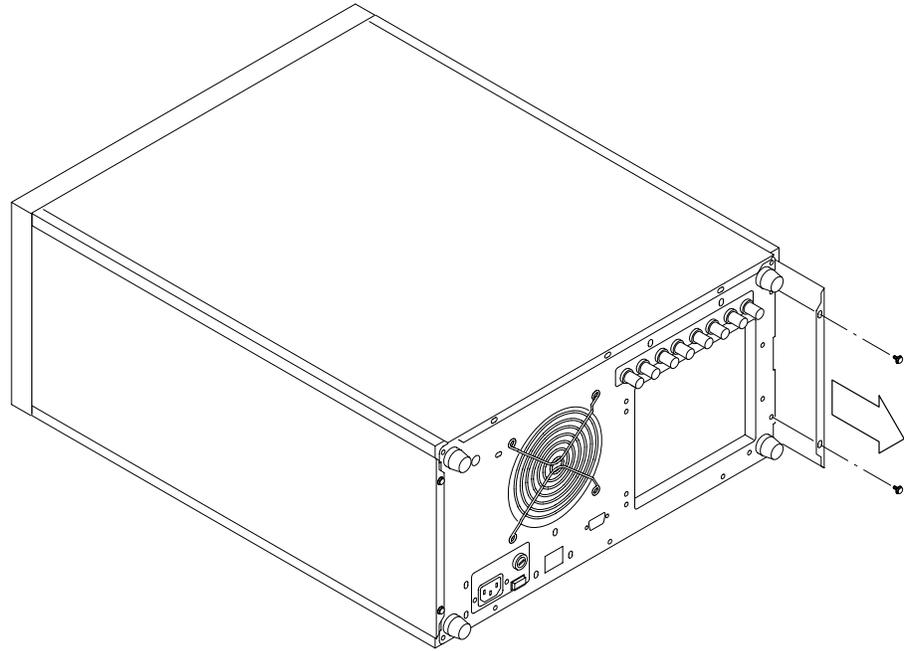

Figure 2: Removing the left side panel
2. Remove the two screws from the rear of the left side panel. Remove the left side panel by sliding it back. See Figure 2.
7. Remove the two screws from the rear of the left side panel. Remove the left side panel by sliding it back. See Figure 2.